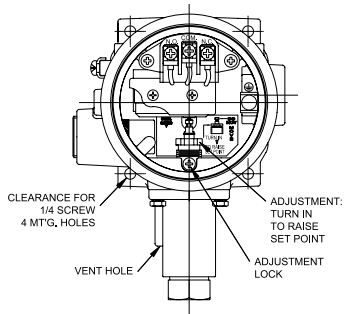

Figure 4a
Remove cover. Loosen phillips screw adjustment lock. Adjust set point by turning 5/8" hex adjustment screw clockwise (IN) to raise set point, or counterclockwise (OUT) to lower set point. Secure adjustment screw by tightening adjustment lock (see Figure 4a). Internal reference scales are provided to show which portion of the range (high or low) the control is set.